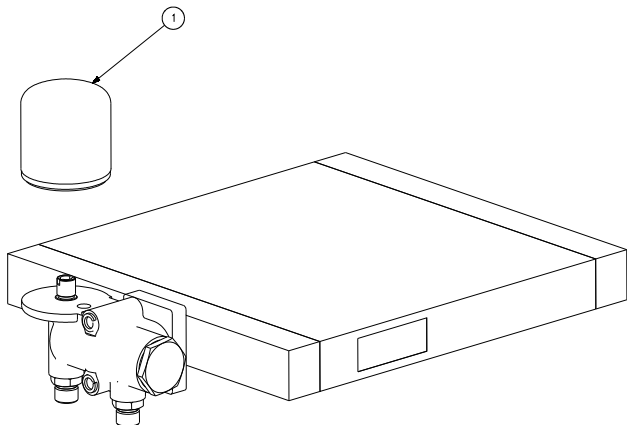

Figure 6-3: Fluid Filter Assembly
2. Replace the fluid filter. Refer to *Figure 6-3* and *Section 6.5*.
Refer to *Figure 6-3*. Replace the fluid filter under any of the following conditions, or whichever occurs first:
Refer to *Figure 6-3*.